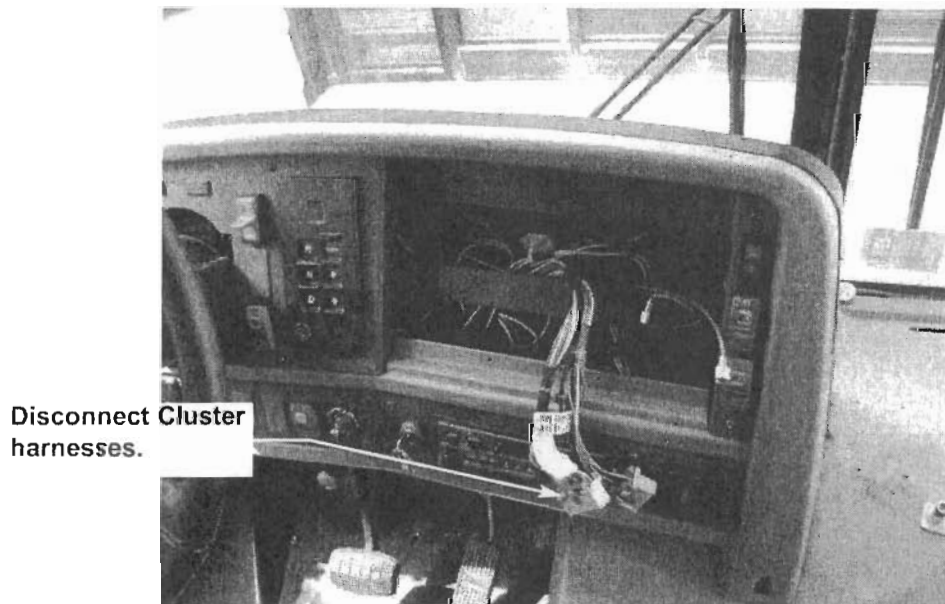

Figure 5
- c. Unplug clusters. **Figure 5**